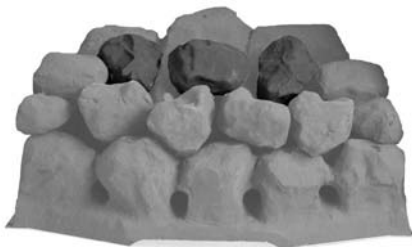

Fig. 25
6. Choose three loose coals and place them in line on the next row up, again making sure all the gaps are even. It is important that the coals 'bridge' the peaks of the fuel bed and are not placed in between. This helps the flow of burnt gases and should give an even glowing fuel bed (Fig. 25).